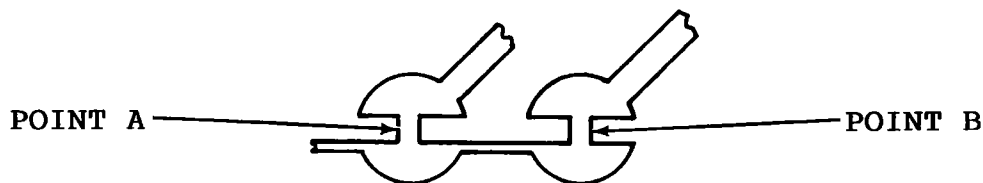

Figure 3-6. Device # programming pads
4. Locate the device # programming pads next to UAB1 and P5. (Refer to Figure 3-6.)